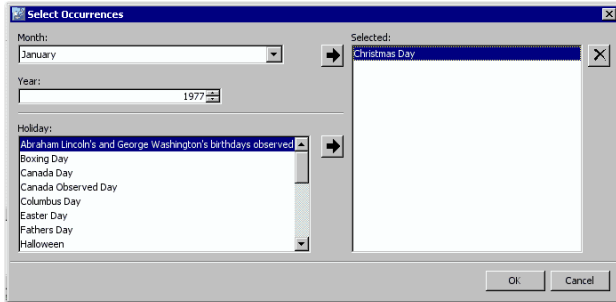

Figure 5.4: Select Occurrences Dialog Box
5. Click **Add** to add an occurrence. The **Select Occurrences** dialog box appears, as shown in Figure 5.4. Select the time period for the occurrence and click **OK**. The **Occurrence** box in the **Event Properties** dialog box now displays a list of the occurrences for the event, as illustrated in Figure 5.4.